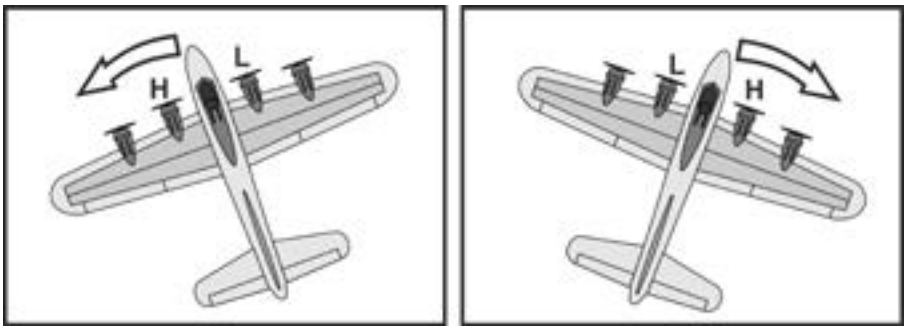

Figure 14
When turning the model around the vertical axis to the left at this point, the left propeller must speed up (H) and the right propeller slow down (L). When turning the model to the right, the right propeller must speed up (H) and the left propeller slow down (L) (see Figure 14). Even now the changing motor speeds can be heard very clearly.